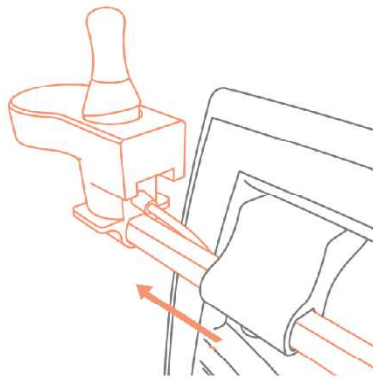

Figure 7
1. Make sure to disconnect the joystick controller wiring before removing the joystick holder. Disconnect by loosening the metal rings and untighten the controller (Figure 7).